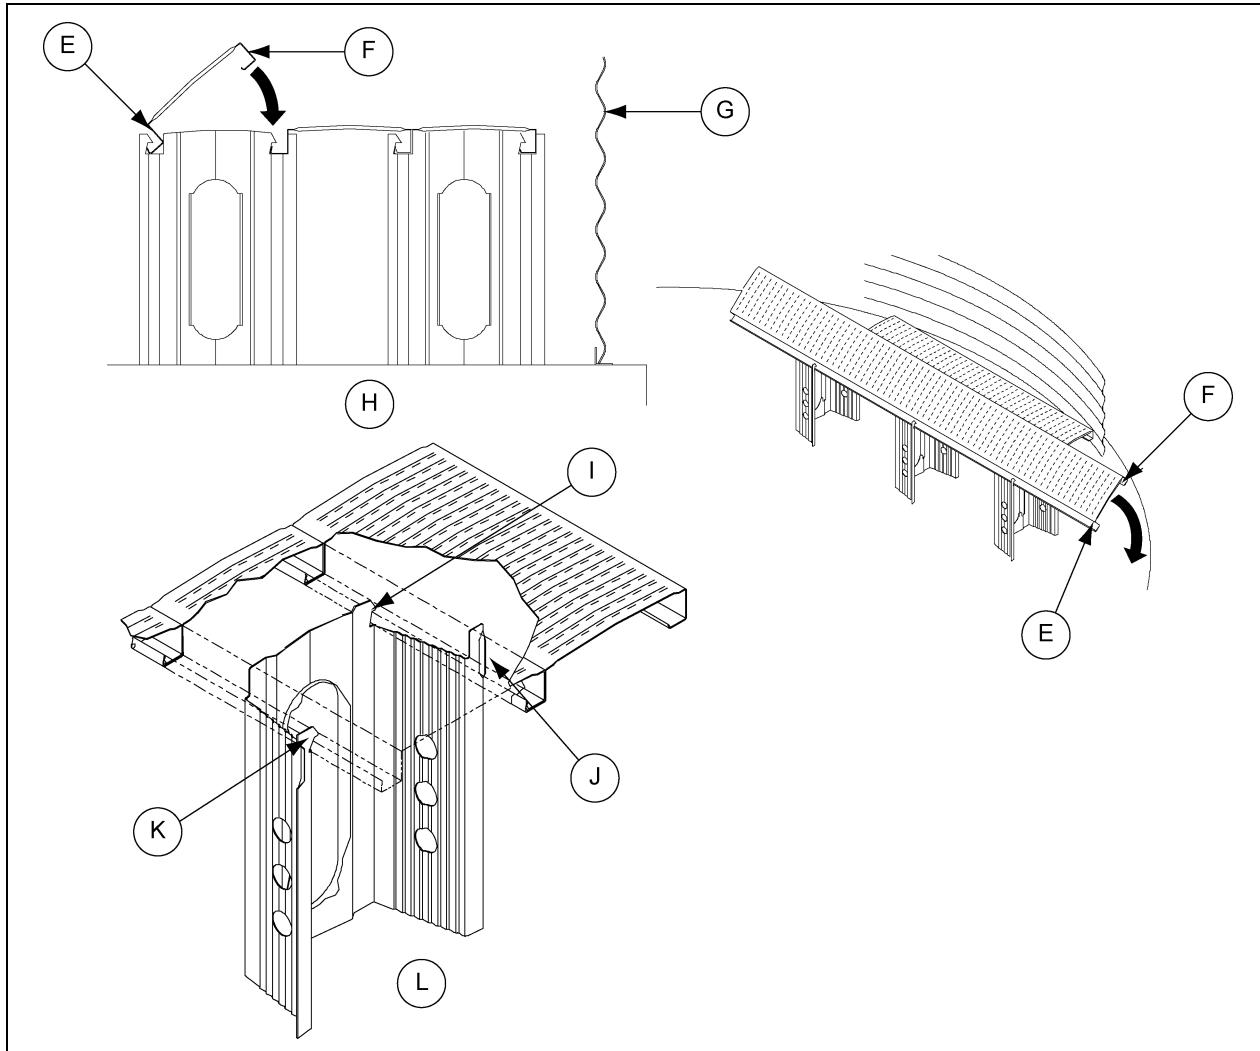
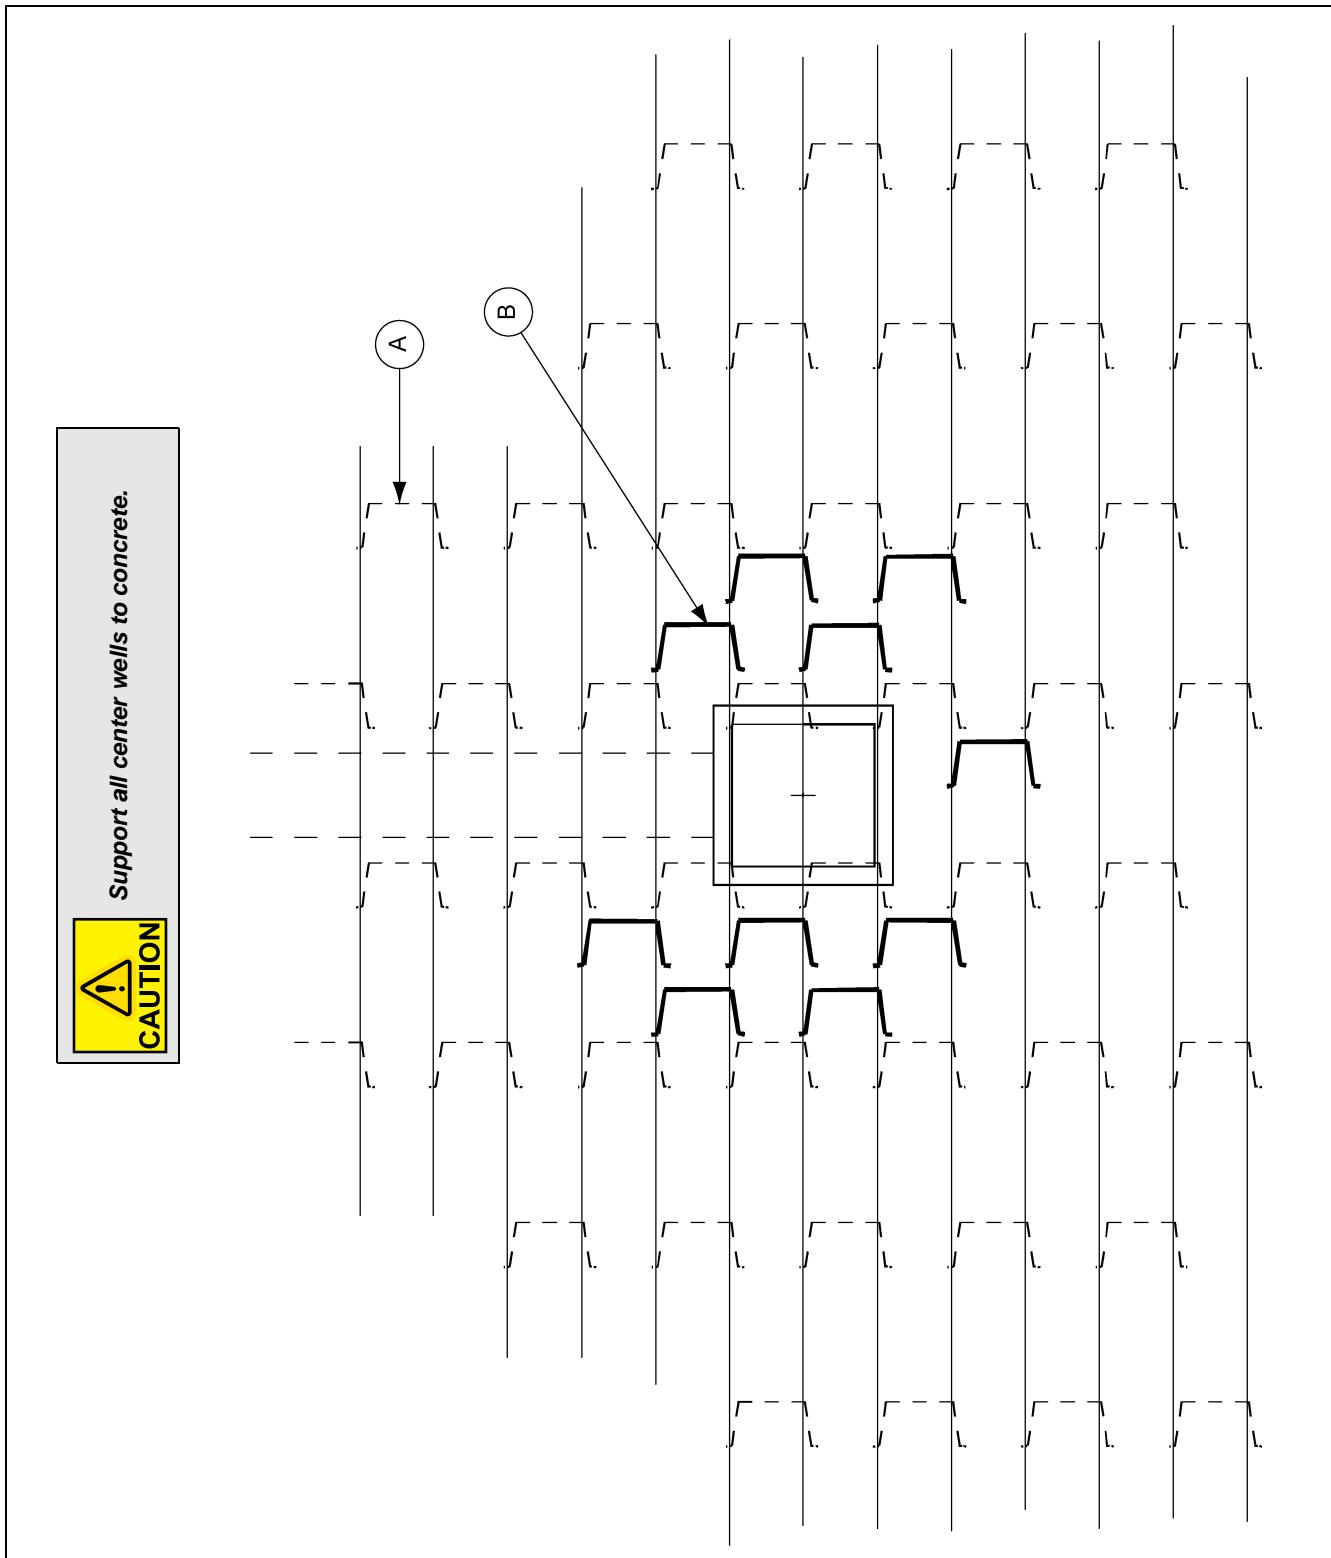

Figure 5C
Figure 8A
IMPORTANT: First piece of flooring must start at the proper distance from centerline of bin. Refer to floor layout on Page 24. First piece may need to be trimmed for length to fit at the proper location. (See Figure 5C.)
4. Install flooring starting at the bin wall on the opposite side of the unload auger. Floor planks should be placed perpendicular to the unload auger with the outside edge the correct distance from the center of the bin. (See Figure 10A on Page 24.) Be sure the flat edge of the floor plank is facing the bin wall and the open channel edge (E) is facing towards the center of the bin. (See Figure 5C.) Position the supports for the first/shortest floor plank according to the number of bin rings and corrugation as shown in the illustrations on Pages 27-35 or stated in the charts on Pages 36-37. Attach the flashing to flooring and bin wall to hold plank in place. (See Page 21 for flashing installation.)
5. **POSITION THE NEXT ROW OF SUPPORTS ACCORDING TO THE CHALK LINES** and support layout. The straight tab should “snap” under the first (previous) floor piece. After the supports in the row are correctly positioned, install the next floor piece by hooking the open channel edge (E) under the outside hooks (K) of the floor supports. Push down sharply on the edge of the floor piece until it snaps into the previous floor piece. (*See Figure 5C on Page 15.*) Continue this process for the rest of the floor cutting planks for center and intermediate wells as needed. *See Figure 8A on Page 22* for center well support locations.